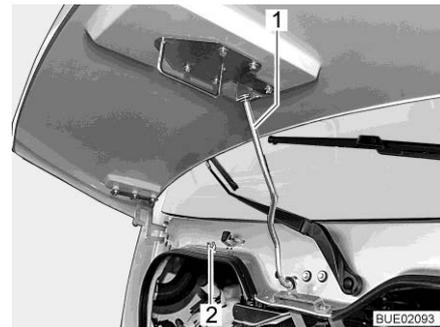

Fig. 49 Securing rod (Ixeo I)
- Take securing rod (Fig. 49,1) out of holder (Fig. 49,2) and hook into retainer on the bonnet.
- Unhook securing rod (Fig. 49,1) from retainer on the bonnet and press into holder (Fig. 49,2).